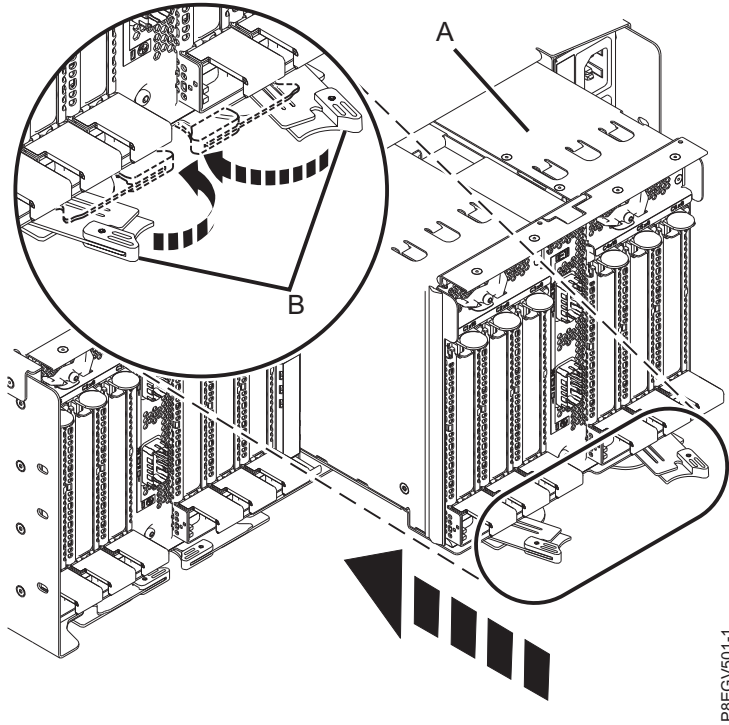

Figure 15. Closing the release latches on the PCIe3 6-slot fanout module
5. Push the release latches **(B)** on the PCIe3 6-slot fanout module **(A)** toward the system until they lock in place. See Figure 15 on page 15.